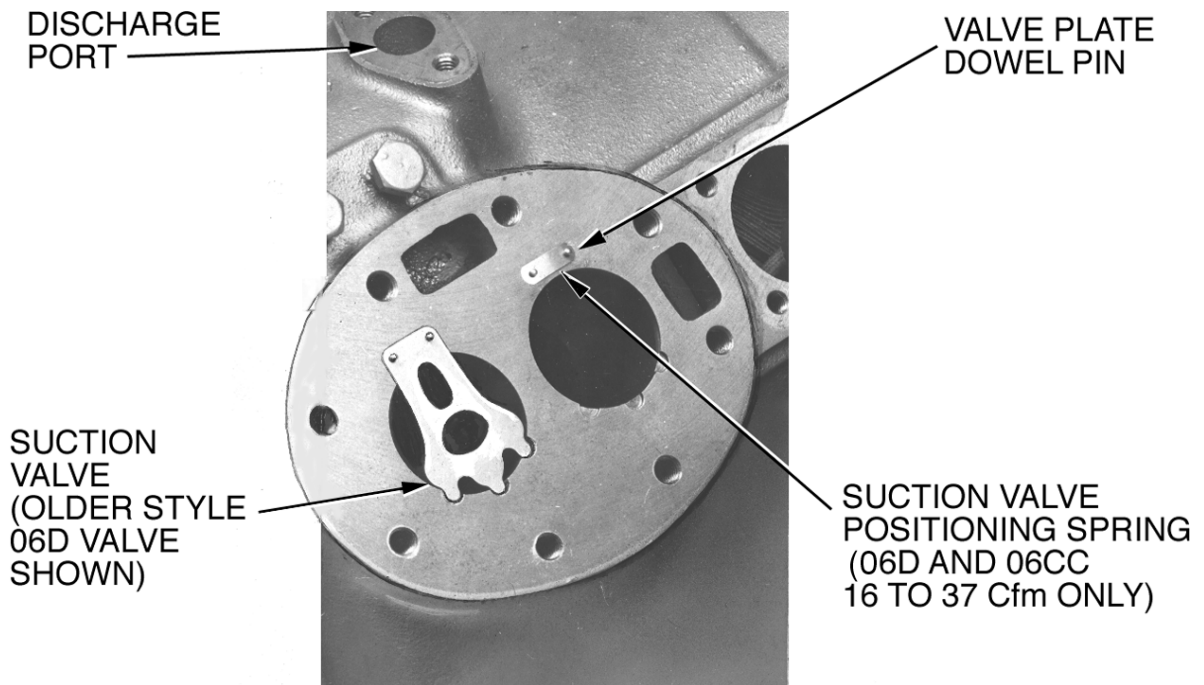

Fig. 4 — Suction Valve and Positioning Springs in Place (06D Shown)
4. Pry up along sides of valve plate to remove valve plate from crankcase. This provides access to suction reed valves (see Fig. 3). Remove suction valves from dowel pins. On 06D and 06CC (16 to 37 Cfm) compressors, also remove the suction valve positioning springs (see Fig. 4).
1. If reassembling existing components, do not interchange valves or turn them over. They must be reassembled in their original position. Install the suction valve positioning springs (06CC size 16 to 37 Cfm and 06D compressors only) on dowel pins. Assemble positioning springs with spring ends bearing against cylinder deck (Fig. 4), spring bow upward.